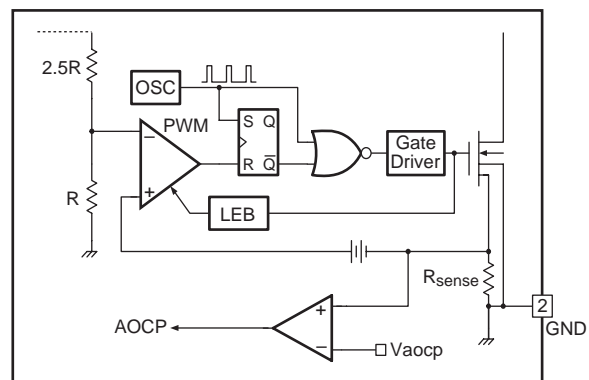

Figure 14. AOC Block
4.2 Abnormal Over Current Protection (AOC): When the secondary rectifier diodes or the transformer pins are shorted, a steep current with extremely high di/dt can flow through the SenseFET during the LEB time. Even though the FSCQ-Series has OLP (Over Load Protection), it is not enough to protect the FSCQ-Series in that abnormal case, since severe current stress will be imposed on the SenseFET until the OLP triggers. The FSCQ-Series has an internal AOC (Abnormal Over Current Protection) circuit as shown in Figure 14. When the gate turn-on signal is applied to the power SenseFET, the AOC block is enabled and monitors the current through the sensing resistor. The voltage across the resistor is then compared with a preset AOC level. If the sensing resistor voltage is greater than the AOC level, the set signal is applied to the latch, resulting in the shutdown of SMPS. This protection is implemented in the latch mode.